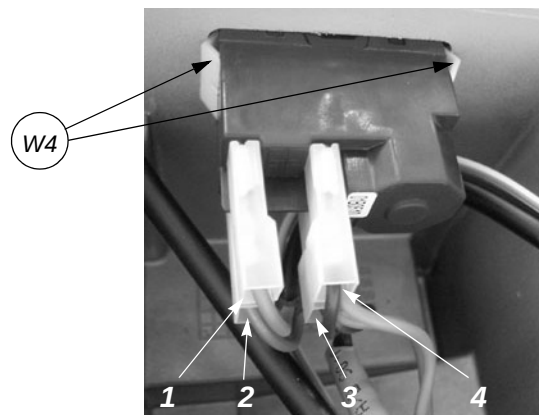

Fig. 34
- 3) Detach the various connectors (1, 2, 3, 4) paying careful attention to their positions (fig.34).
- 7) Replace the bottom safety plate and fix with the 7 screws (W) and 2 feet. Fit the swarf tray.